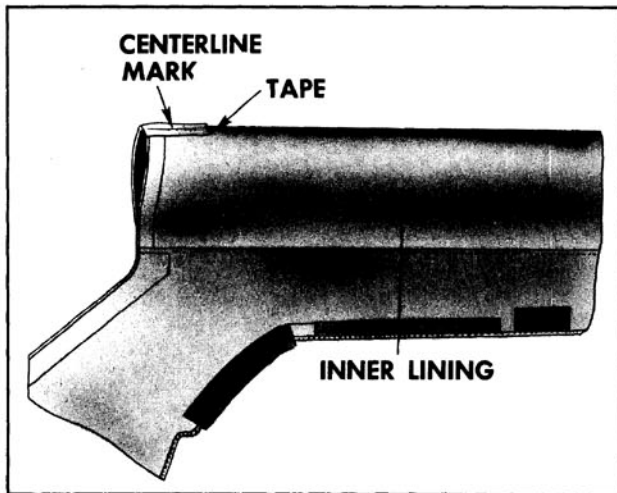

Fig. 16-448 Marking Top Material
23. Fold new top material in half so that inner lining of top material is exposed. (Fig. 16-448) Install a 6" piece of tape on inner surface at centerline fold of new top material. Using a pencil, mark the approximate centerline of new top material along entire length of tape.
4. Fold new top material in half so that inner lining of top material is exposed. (Fig. 16-448) Install a 6" piece of tape on inner surface at centerline fold of new top material. (Fig. 16-448) Using a pencil, mark the approximate centerline of new top material along entire length of tape.